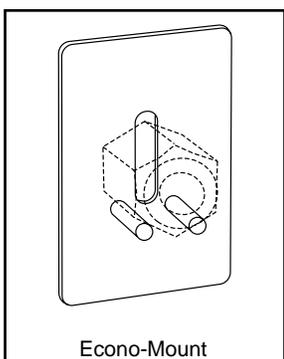

Figure 4 - ECONO-MOUNT displaying Barrel placement.
1. To analyze the pellet in the barrel chamber, place the ECONO-MOUNT in the slide mount of the spectrometer sample compartment (Figure 4).